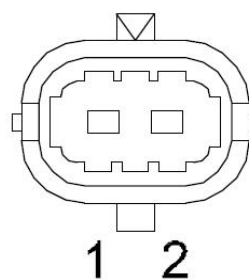

Figure 4-30 Fuel injector pin
- Pin definition (refer to figure 4-30)